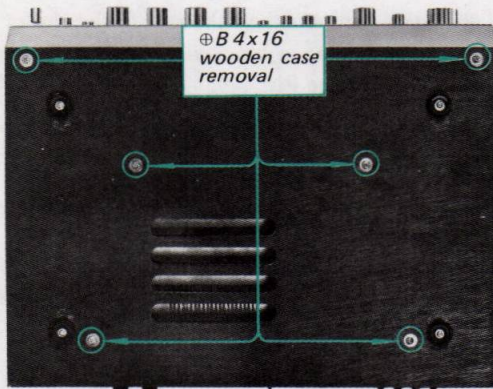

Fig. 2-2. Wooden case removal
1. Remove the six screws at the bottom of the wooden case as shown in Fig. 2-2.